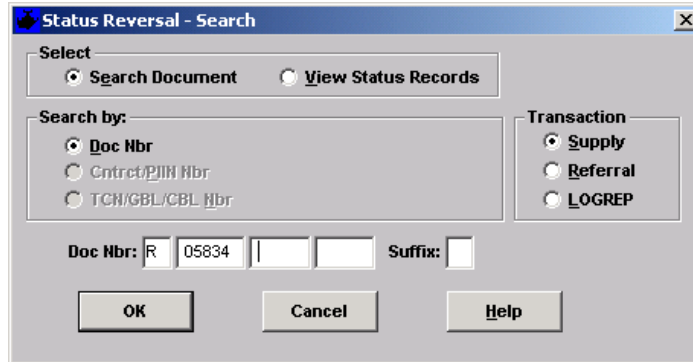

Figure 6.13
6.4.1 The *Status Reversal - Search* window (Figure 6.13) allows the user to generate an AE_ status record for reversal.